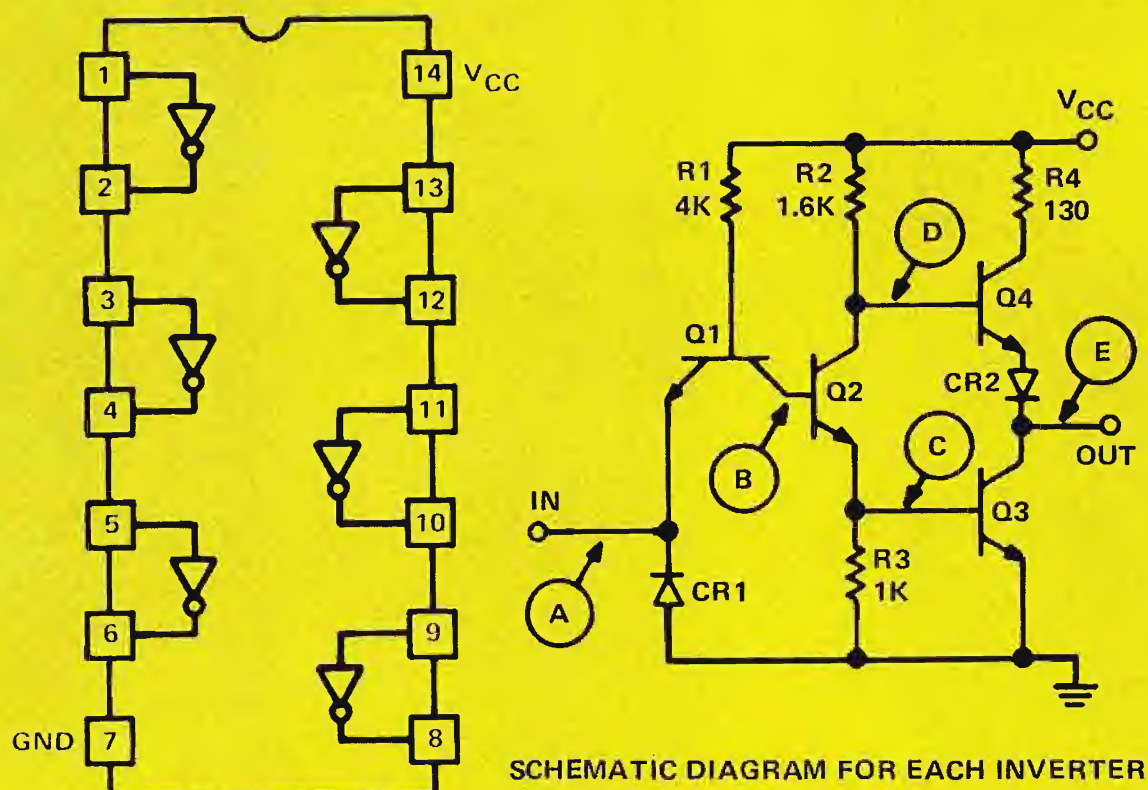
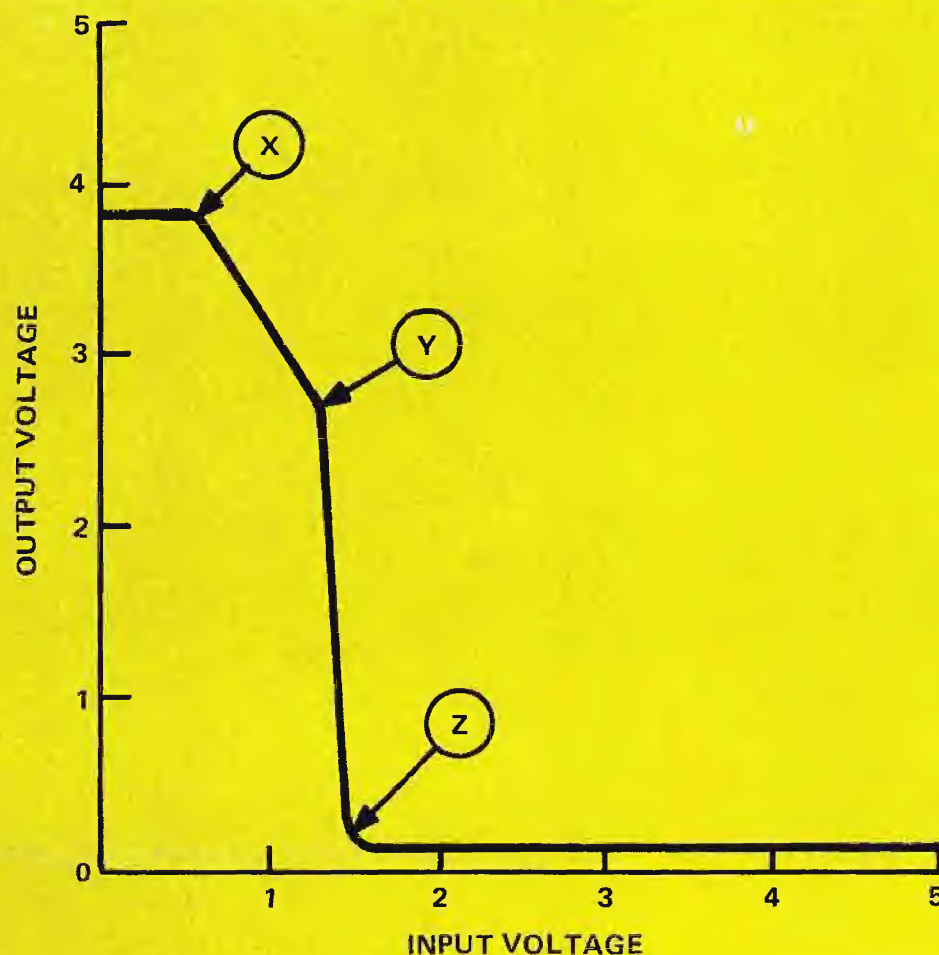

Fig. 10. Type 7404 Hex Inverters (TTL)
Fig. 11. Typical Transfer Characteristic for a TTL Inverter
A basic TTL inverter circuit, specifically that used in the Type 7404 hex inverter, is shown in Fig. 10. Q1 is the special input transistor which substitutes for a pair of diodes in the corresponding DTL circuit. Q1 is used in an unusual way, in that its collector junction (as well as its emitter junction) may become forward-biased un-
As an aid in interpreting the circuit of Fig. 10, let us assume that the input terminal is held at ground potential. Under these circumstances, the emitter junction of Q1 is forward-biased through R1, and the base of Q1 is at a potential of about 0.7 volts. This potential is too low to turn on the series combination of the collector junction of Q1, the emitter junction of Q2 and the emitter junction of Q3; the actual voltages at points (B) and (C) will be approximately 0.47 volts and 0.23 volts. It follows, therefore, that tran-
The transfer characteristic of a typical TTL inverter is shown in Fig. 11. As pointed out in the preceding analysis, the output terminal will be at a logic HIGH value of nominally +3.8 volts when the input is held at or near ground potential. There is no change in the output level until the input rises to about 0.65 volts (point X in Fig. 11), at which time the potential at point (b) in the circuit of Fig. 10 reaches the value which permits Q2 to start conducting. As Q2 starts conducting, it functions as a conventional common-emitter amplifier with a gain of -1.6 , established by the ratio of R2 to R3. The voltage at the output terminal (e) moves downward in response to the downward movement at point (d), following a slope of -1.6 between the points labeled X and Y in Fig. 11. When the input voltage rises to about 1.2 volts, Q3 begins to conduct and its low base-to-emitter resistance shunts R3 and greatly increases the gain of Q2. The output voltage therefore falls rapidly from Y to Z on Fig. 11 as Q4 is cut off and Q3 is driven into saturation. The final value of voltage at Z is a function of how much current is drawn into the output terminal, which is in turn a function of the fan out (or the number of gate inputs connected to the output terminal).
4. TTL gates tend to *generate* somewhat more noise than DTL gates because there are brief periods during transitions when transistors Q2, Q3 and Q4 (in Fig. 10) are all "on" simultaneously, causing brief "spikes" of current to be drawn from the power supply. Because of this current spiking effect, it is common practice to place decoupling capacitors (usually of 0.01 to 0.1 ufd) at intervals of every four or five packages along the power supply busses interconnecting groups of TTL gates.
5. In principle, the output terminals of TTL gates with totem-pole output stages may be shorted to ground without damaging the gates, but this practice is not recommended because the gates are placed under abnormal stress. The chief function of resistor R4 in the basic circuit of Fig. 10 is to limit the short-circuit current to a safe value, but when the output is shorted the current drawn from the power supply is substantially greater than normal and the temperature within the package will rise above normal levels.